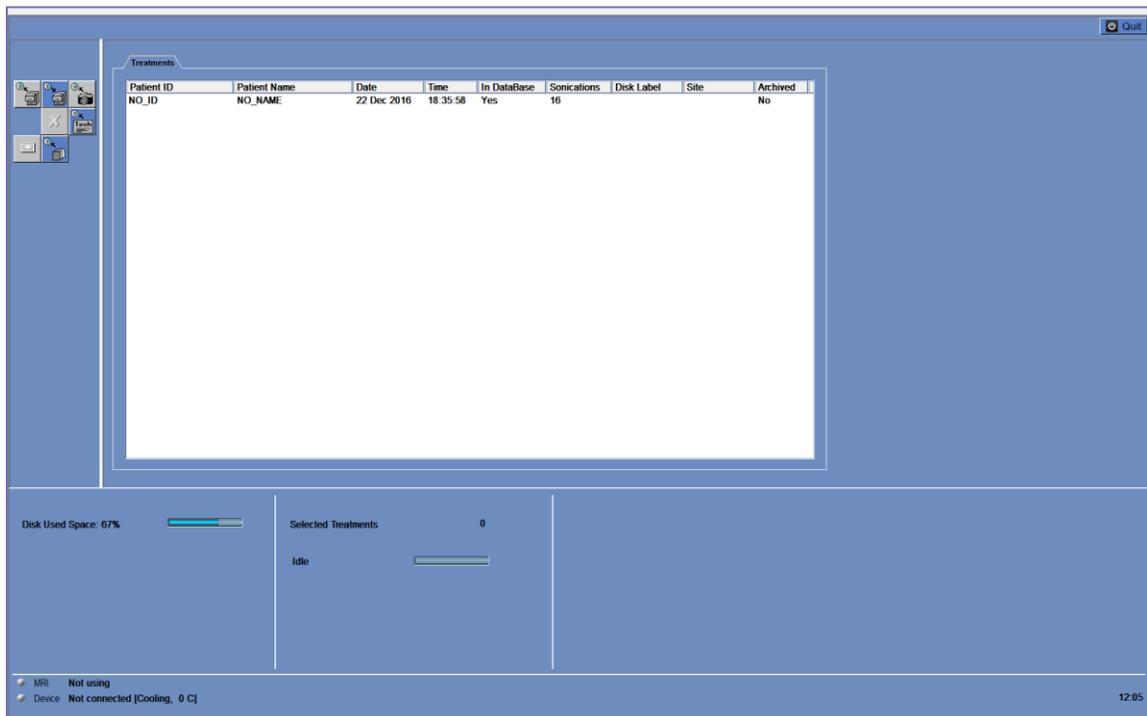

Figure 11-1: Data Management Screen
The following commands appear on the **Data Management** screen (see Figure 11-1):
5. Data will be exported to the CD or USB device. The export's progress can be viewed on the **Status Bar** (see Figure 11-1).
3. The imported treatments will be copied to the local drive and will be shown in the Patient List (see Figure 11-1).
- Erased treatments will still be displayed in the Patient list. The column **In Database** will indicate the availability of treatment in the Database (see Figure 11-1).
-  Select the patients from **Data on WS** list and click the **Burn** button to export the images to a CD or to a USB device. The export process can be viewed in the **Status Bar** (see Figure 11-1).